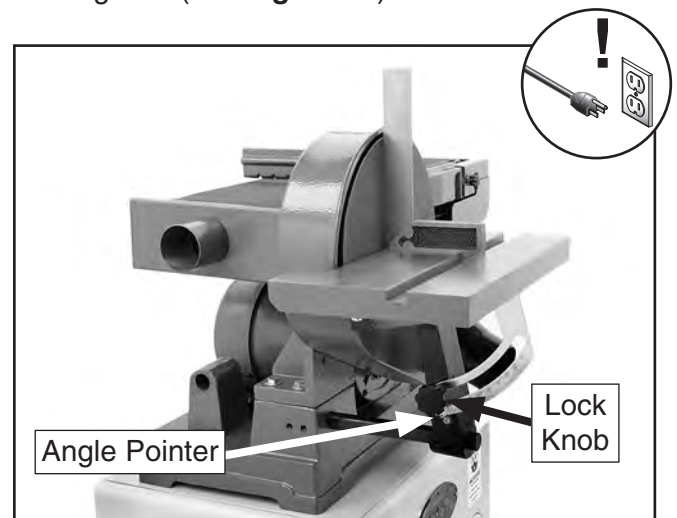

Figure 94. Using a machinist's square to adjust the work table to 90°.
2. Place a machinist's square or other 90° measuring tool against the work table and sanding disc (see **Figure 94**).